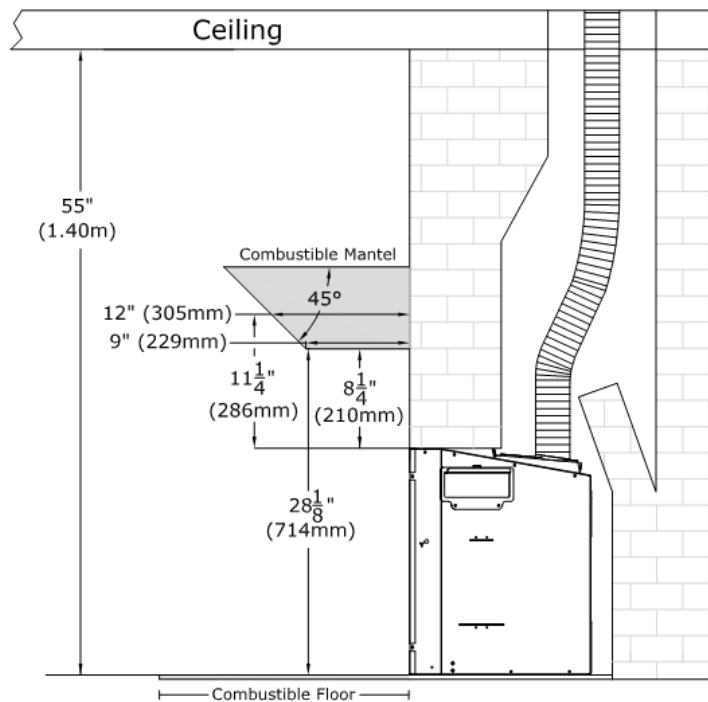

Figure 8.4, Mantel Requirements
- Combustible Mantel Projections: As referenced in Figure 8.4 (page 25) a 9" (229mm) mantel may start at 8-1/4" (210mm) above the top of the appliance. Mantel projections can increase 1" (25mm) of depth for every 1" (25mm) of height starting at the 9" (229mm) mantel.
- Non-combustible Mantel Projections: As referenced in Figure 8.4 (page 25). A minimum vertical clearance of 6" (152mm) above the appliance to a maximum 6" (152mm) depth of a non-combustible mantel. Follow projection 1" (25mm) up for every 1" (25mm) deeper.